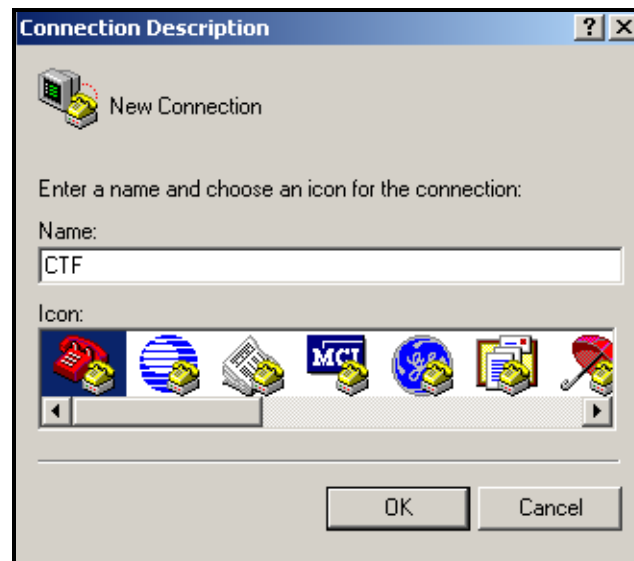

Figure 13: New Connection Window
2. A *New Connection* window appears (see Figure 13 below). Enter a name for the *New Connection*. Click OK.